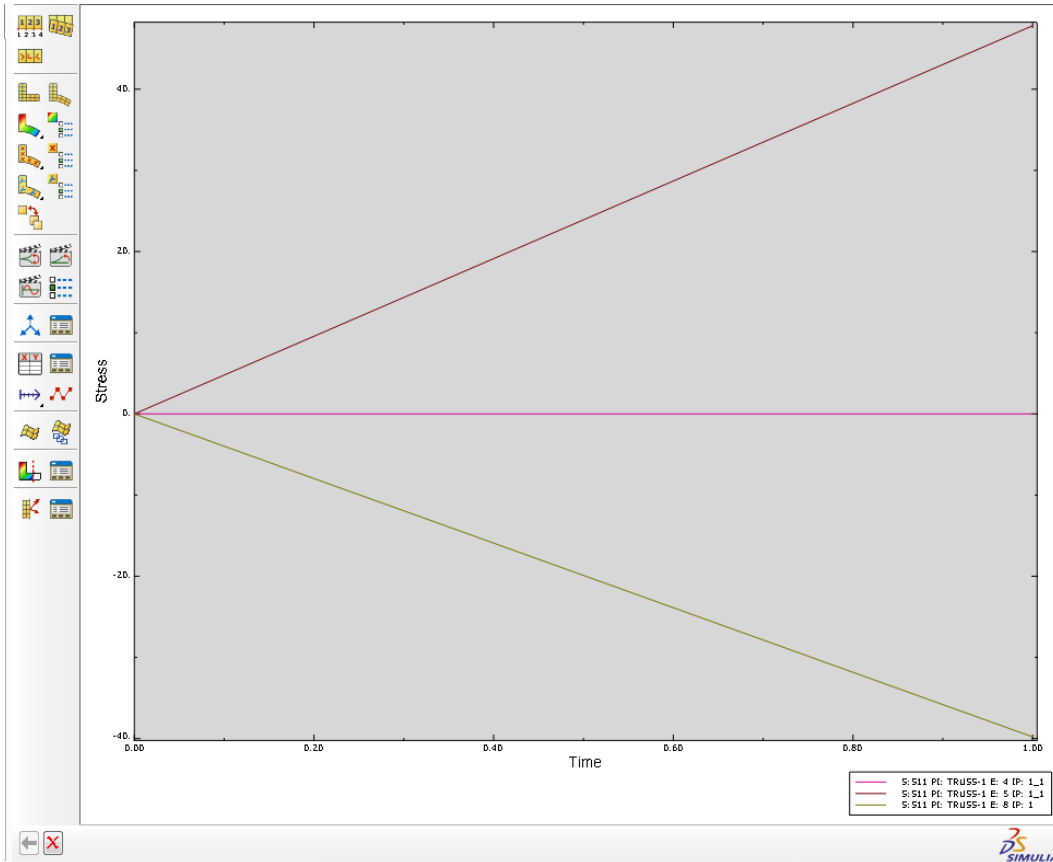

Figure 39. Field Output Plot
- A plot should appear similar to that in Figure 39.